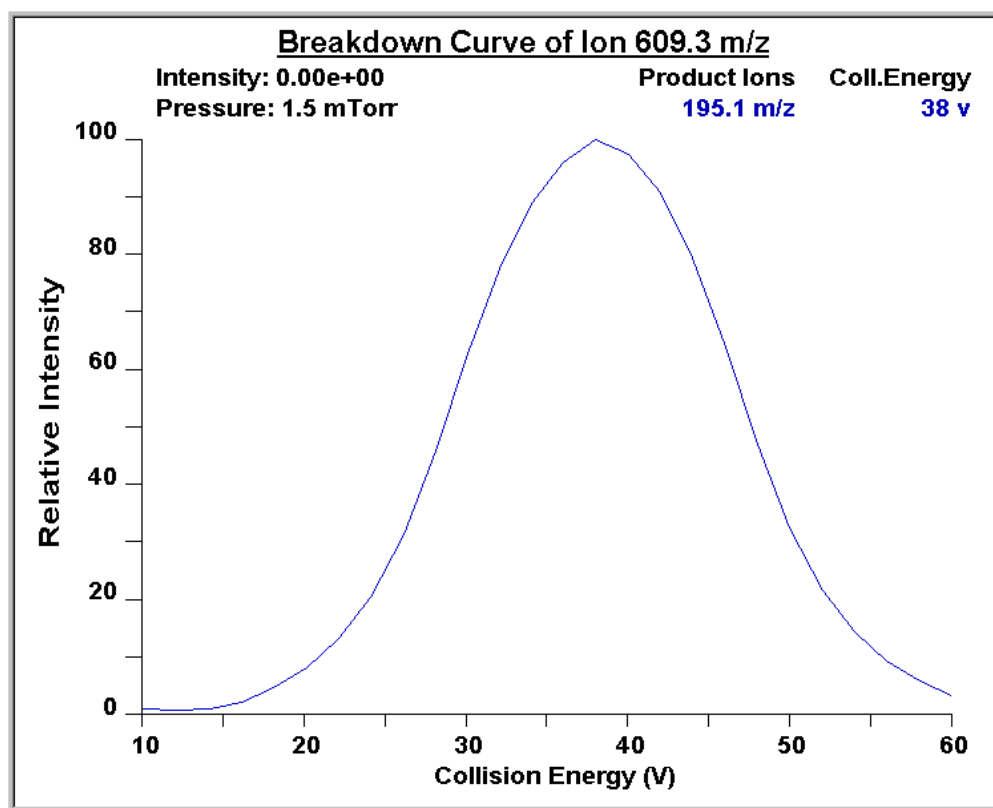

Figure 4-11. Breakdown curve of reserpine showing the relative intensity of the product ion at m/z 195.066 as a function of collision energy
- If the compound optimization procedure finishes without errors and the breakdown curve of the 195.066 fragment is Gaussian-shaped (as in Figure 4-11) or is a smooth, positive-sloped curve, go to step 6.